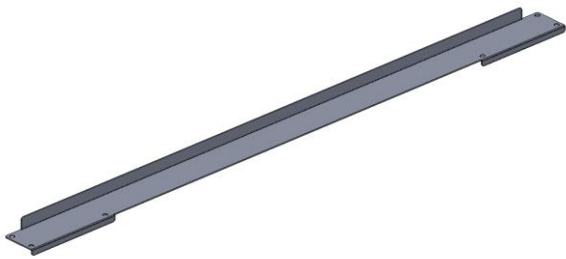

Figure 2. Interior Mounting Plate
- Interior Mounting Plate (See **Figure 2**)